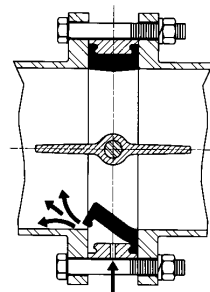

Fig. 6
**Do not inflate seat when disc is in the open position.** This can result in valve failure and/or cause the seat to become dislodged or damaged (see Fig. 6).